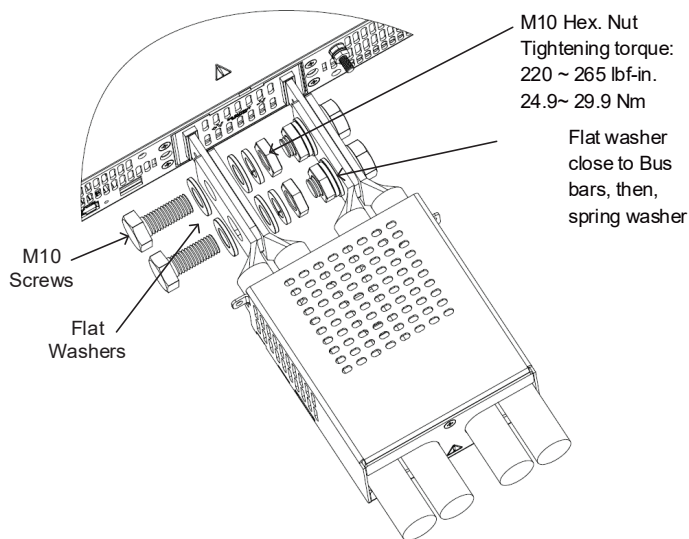

Figure 4-50: 10V 3.4kW and 5kW Wires Assembly
4. Fix the wires to the Bus bars as shown in Figure 4-50. In this model, the plastic protectors will not be assembled.